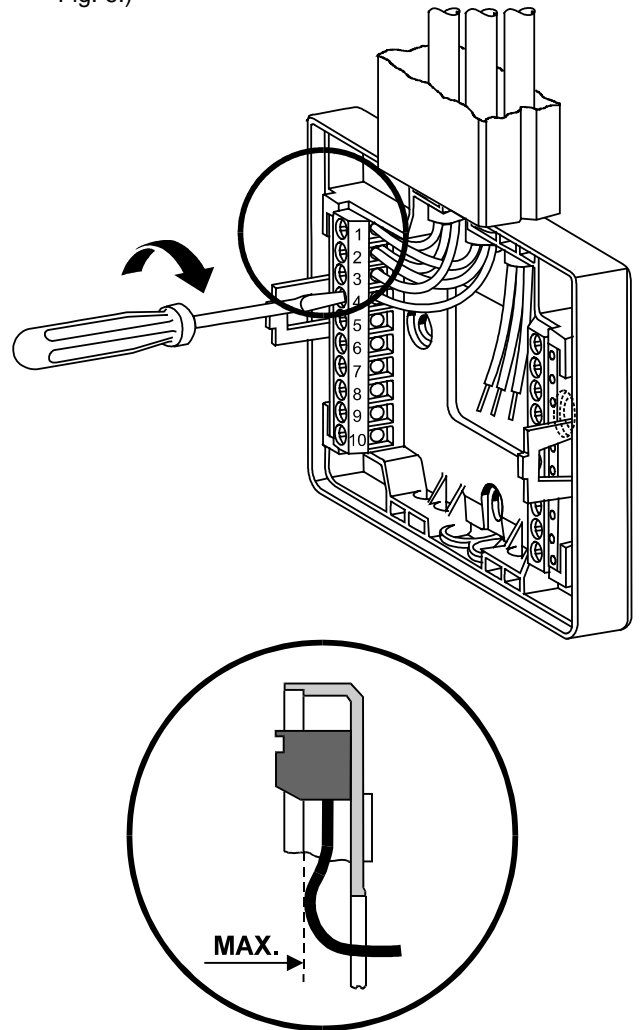

Fig. 6. Terminal block connections.
2. Insert the wire in the required terminal location and tighten the screw to complete the termination. Insure that the wire entering the terminal block does not extend above the numbered face of the terminal block to avoid contact between the wires and the printed circuit board on the underside of the front cover (see Fig. 6.)